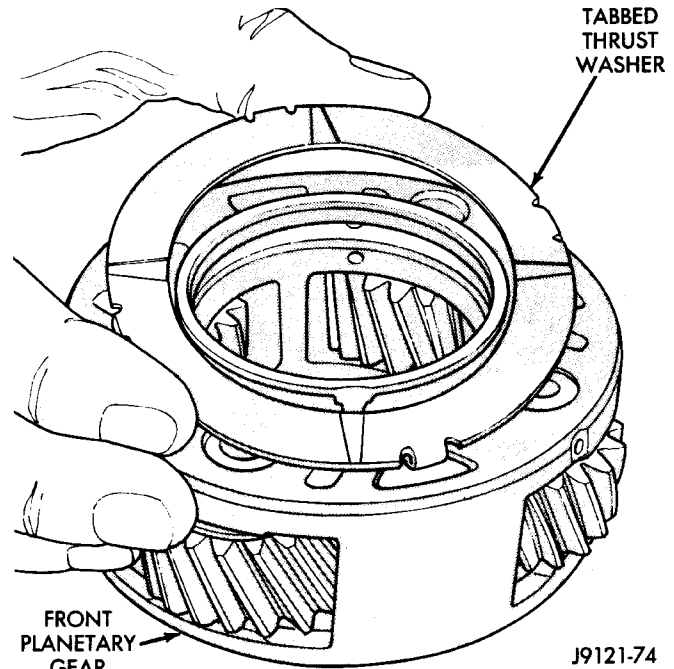

Fig. 188 Installing Thrust Washer On Front Planetary Gear
(10) Install tabbed thrust washer on front planetary gear (Fig. 188). Seat washer tabs in matching slots in face of gear carrier. Use extra petroleum jelly to hold washer in place if desired.